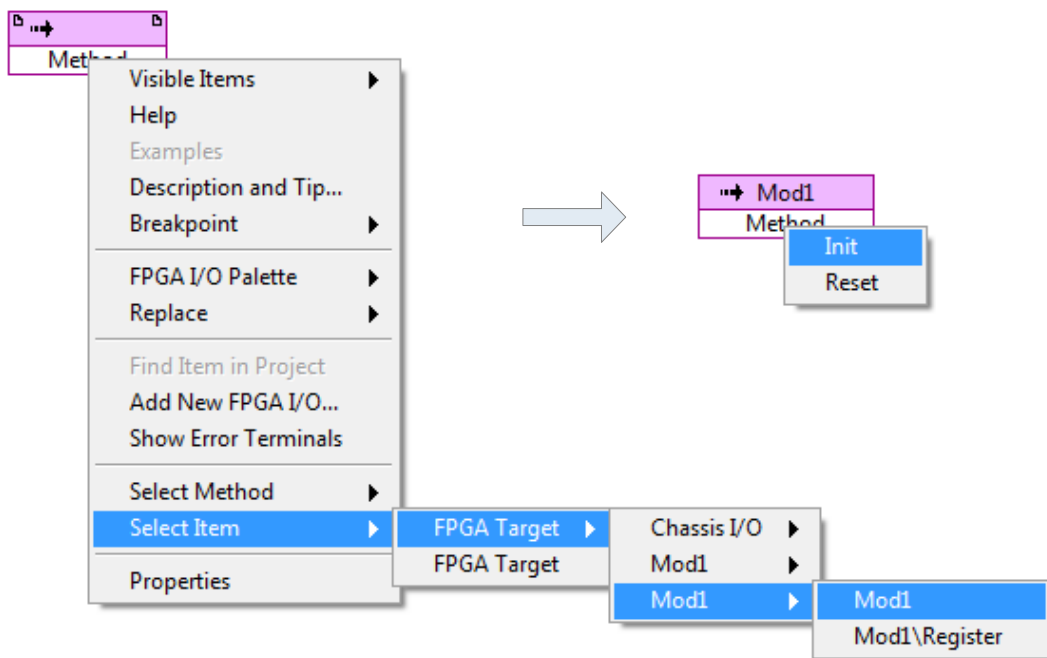

Fig. 5: Quick Start – Create initialization method
13. Finally select the method to be executed from the list of available methods for the selected item. For this tutorial, select the *Init* method as shown in Fig. 5.